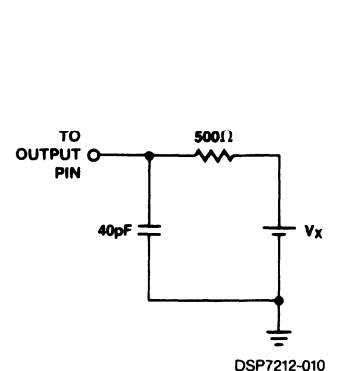

Figure 2. Output Three State Delay Load (Vx = 0V or 2.6V)
2. Transition is measured -500mV from steady state voltage with loading specified in Fig. 2